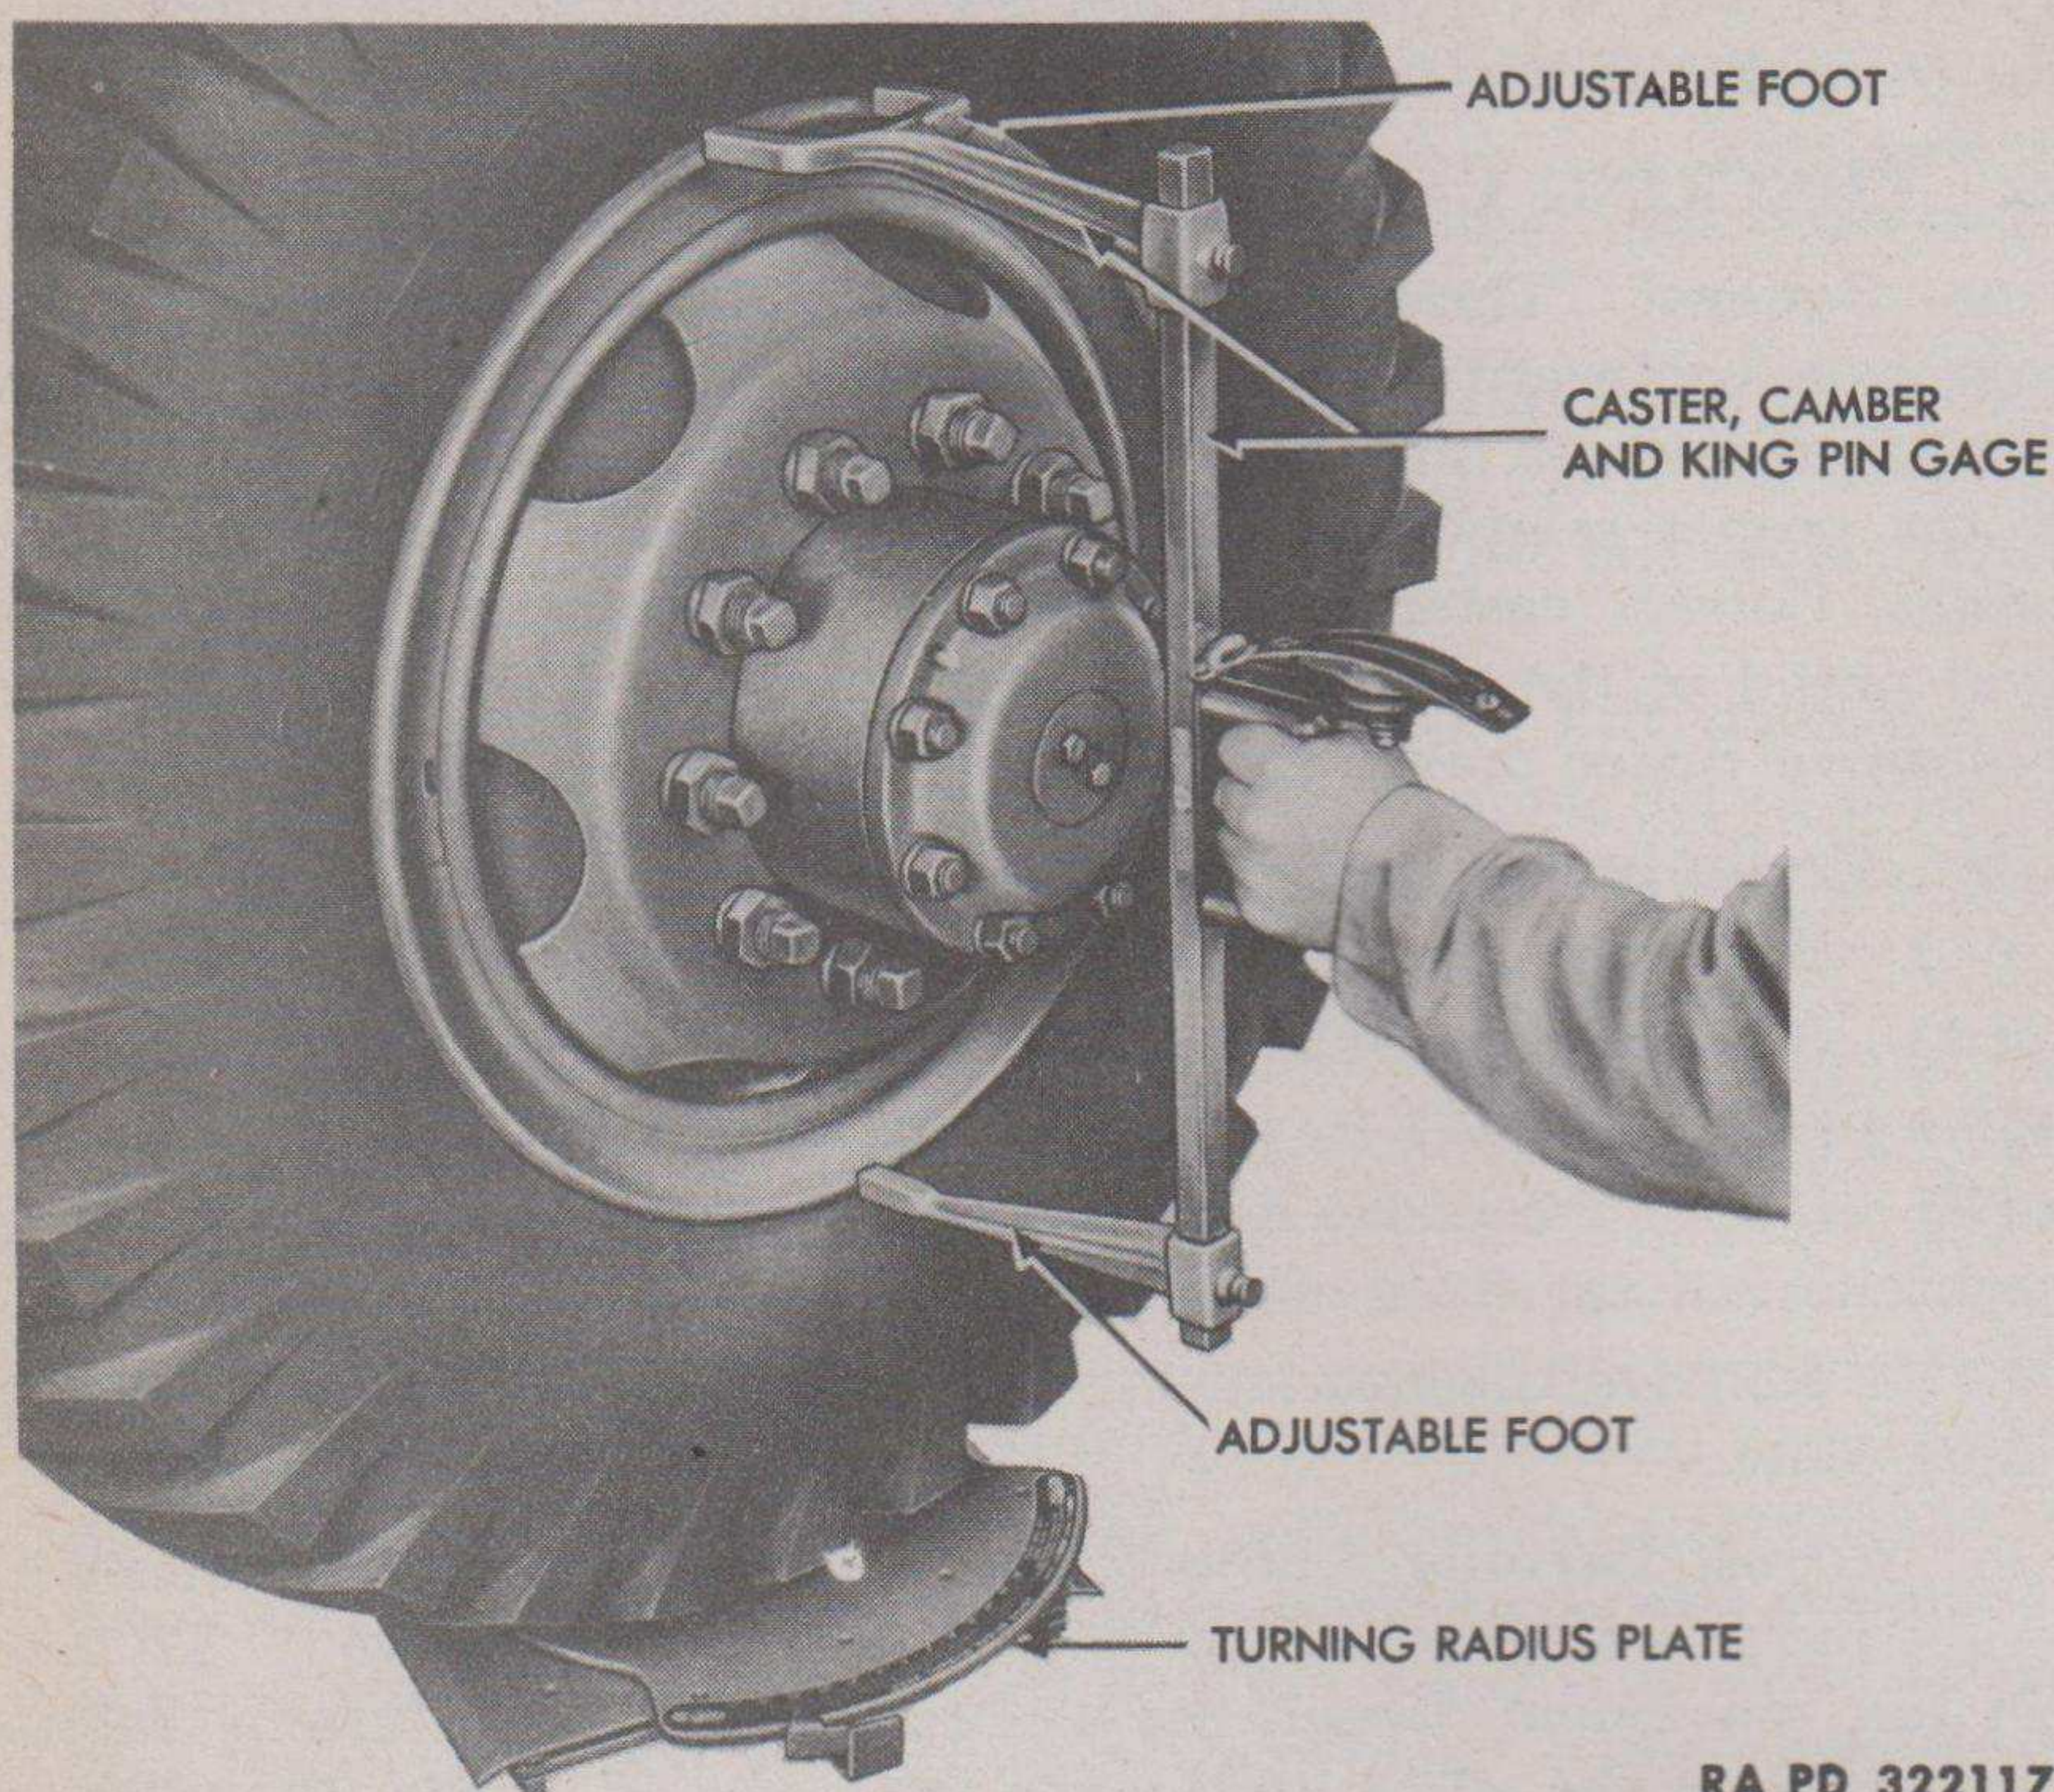

Figure 43 — Checking Caster
- (1) Check the caster on the right front wheel by turning the steering wheel as though you were making a left turn. Turn until the turning radius plate scale reads 20 degrees.
- (2) Hold the caster, camber, and kingpin gage against the wheel (fig. 43). The feet of the gage should be adjusted up or down so that they touch the wheel rim.
- (3) Observe the bubble in the vertical spirit level (fig. 43), and move the gage clockwise or counterclockwise until the bubble shows the gage to be vertical.
- (4) Loosen the screws in the caster scale. Push the caster scale in or out until zero on the caster scale is opposite the bubble of the caster, camber, and kingpin spirit level (fig. 43). Tighten the screws.
- (5) Remove the gage from the right wheel, but do not alter the position of the caster scale. Turn the steering wheel as though making a right turn until the turning radius plate scale reads 20 degrees.
- (6) Place the caster, camber, and kingpin gage against the right wheel again. The caster, camber, and kingpin spirit level bubble